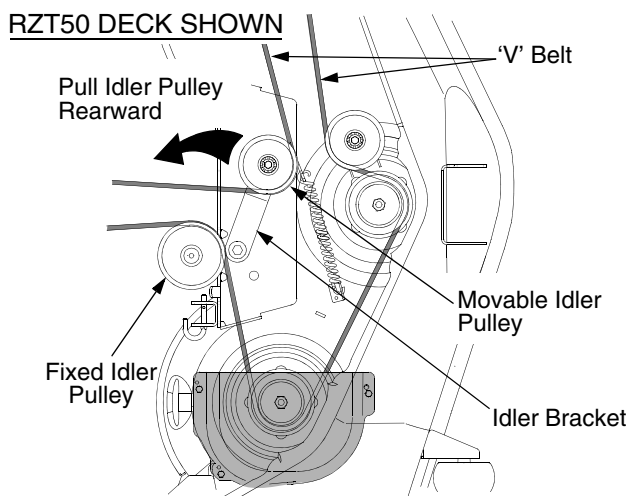

Figure 30
- Working from the middle of the tractor, pivot the idler bracket and movable idler pulley rearward away from the backside of the 'V' belt just far enough to lift the belt up and over the idler pulley. See Figure 30.
- Route the backside of the belt around the fixed idler pulley of the deck. Refer to Figure 30.
- Working from the middle of the tractor, pivot the idler bracket/movable pulley rearward against the spring tension and slide the backside of the belt onto the movable idler pulley. Refer to Figure 30.
- Make certain the belt is in the spindle pulleys of the deck, and that the backside of the belt is against both the fixed and movable idler pulleys. Refer to Figure 30.